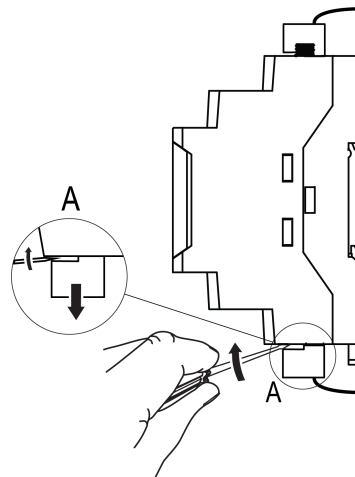

Fig. 6.3 Quick replacement
3. Using a screwdriver or a similar tool, unplug the terminal blocks with existing wiring connected (see Fig. 6.3).